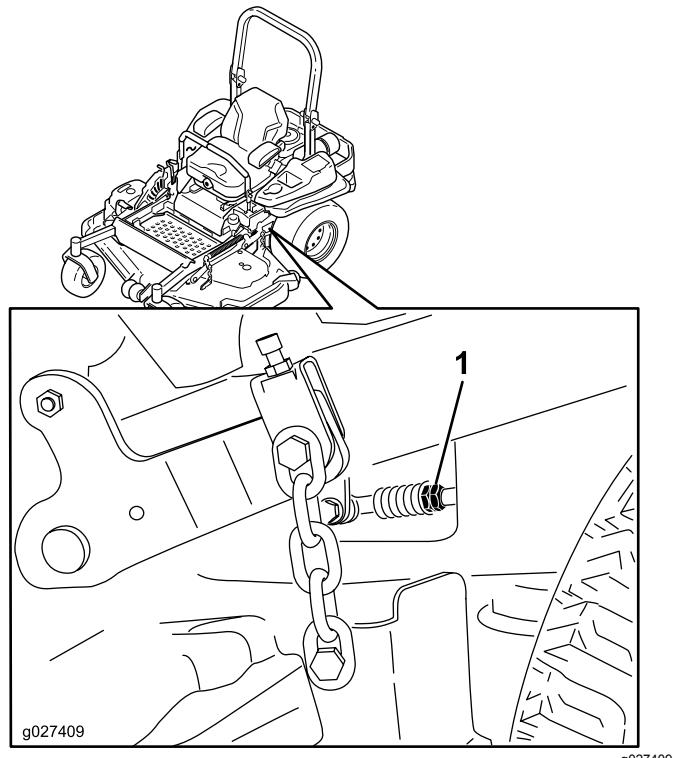

Figure 96
10. Adjust the pump-control-rod lengths by rotating the double nuts on the rod in the appropriate direction until the wheels slightly creep in reverse (Figure 96).